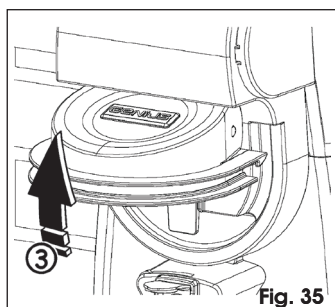

Fig. 35
1. Open the release cover, Fig. 35.